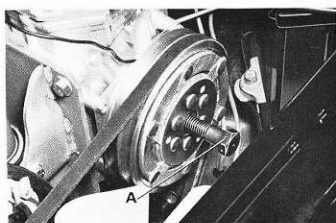

Fig. 8-82. Removing pulley
When replacing the compressor solenoid clutch, first disconnect the pulley center bolt. Thereafter remove the pulley with the help of a 5/8" UNC bolt, which is threaded into the center of the pulley, which is pulled off the shaft (Fig. 8-82). The solenoid is removed by undoing the four bolts (7, Fig. 8-33). When installing the solenoid, turn it so that the cable (2) comes upwards. Before fitting the pulley, check that the key (3) fits properly in the shaft groove. Tighten the pulley center bolt to a torque of 25—30 Nm (18—22 lbf). When tightening the center bolt, the simplest way to lock the clutch is by switching on the current and holding the pulley with the compressor belt. Then check by rotating the pulley several revolutions that it does not slip in the solenoid.